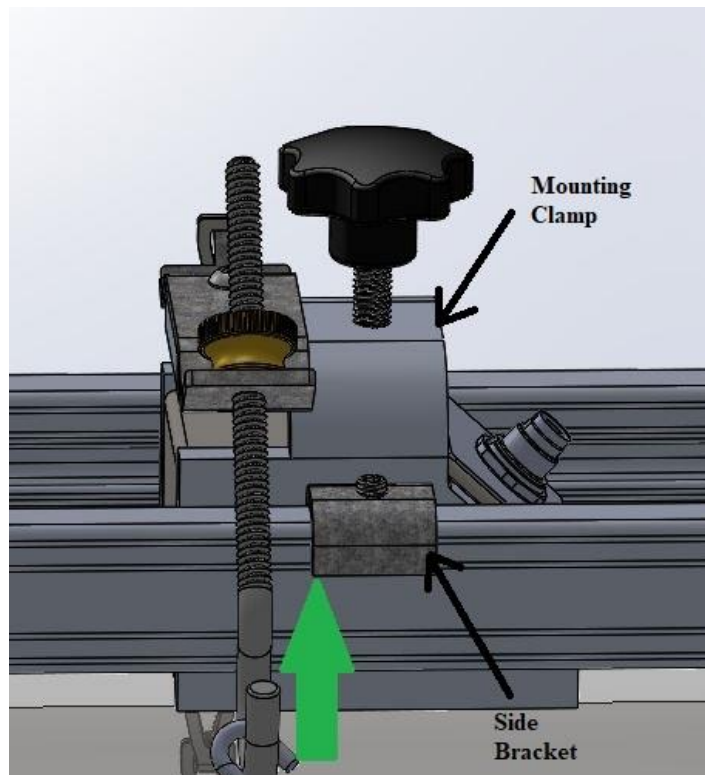

Figure 2-5. Spacing Locating Point on Large Rail/Fixture System*
4. Loosen the two set screws on the rightmost transducer mounting clamp and using the scale etched on the front most rail, slide the clamp so that the back edge of the side bracket is at the location determined by the flow meter. See Figure 2-5 for reference. Tighten the two set screws on the top of each side bracket after the location is found.